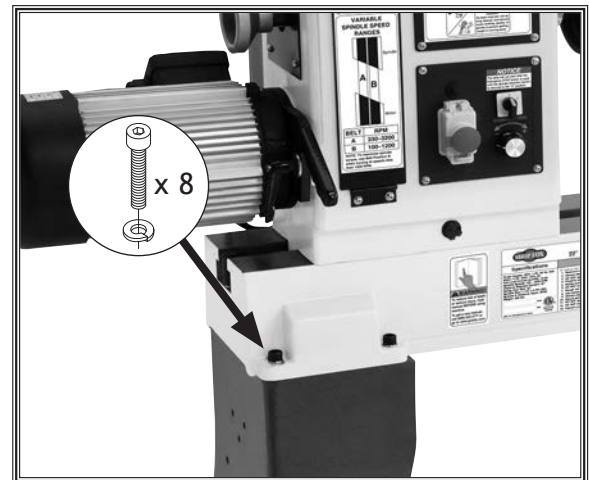

Figure 11. Lathe assembly secured to stand legs.
3. Secure lathe assembly to stand legs with (8) M10-1.5 x 35 cap screws and 10mm lock washers, as shown in **Figure 11**.